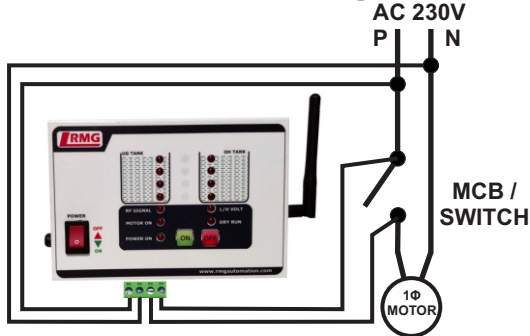
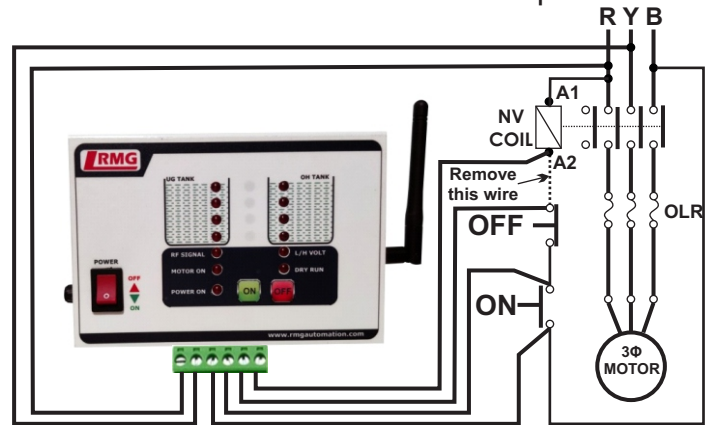
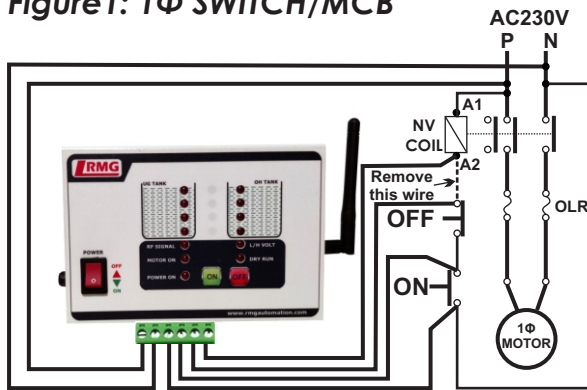

Figure 1: 1Φ SWITCH/MCB
Figure 2: 3Φ Starter
Figure 3: 1Φ Starter
Step 2: As per your model purchased, Connect AC supply (AC 230/440V) to 1st and 2nd terminal of the controller as shown in the figure 1 or figure 2.
Step 3: For switch or MCB, connect 3rd and 4th terminal of device in parallel to the switch as shown in figure 1.
Step 4: For starter type connection refer to figure 2 & Figure 3. In case of other types of connections or doubt what's app to 9940594413 or call 044-43180017